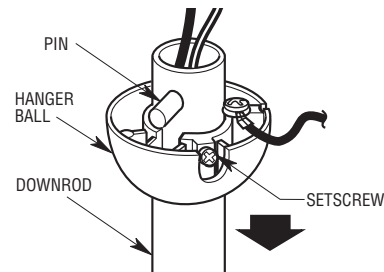

Figure 3
4. Remove the hanger ball by loosening the setscrew in the hanger ball until the ball falls freely down the downrod (Figure 3). Remove the pin from the downrod, then remove the hanger ball. Retain the pin and hanger ball for reinstallation in Step 9.